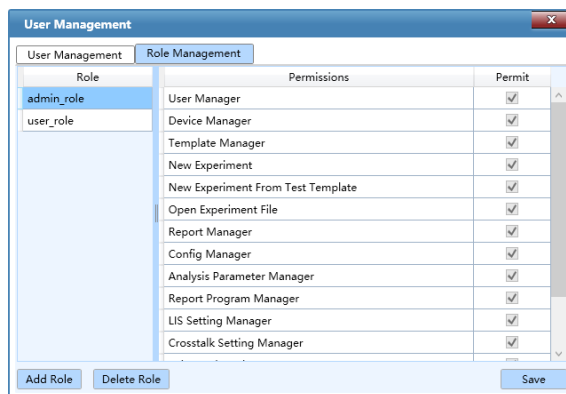

Figure D-3.11a. User Interface - General User Permissions Tab
- ▶ **General User Permissions** tab: as shown in figure D-3.11a.